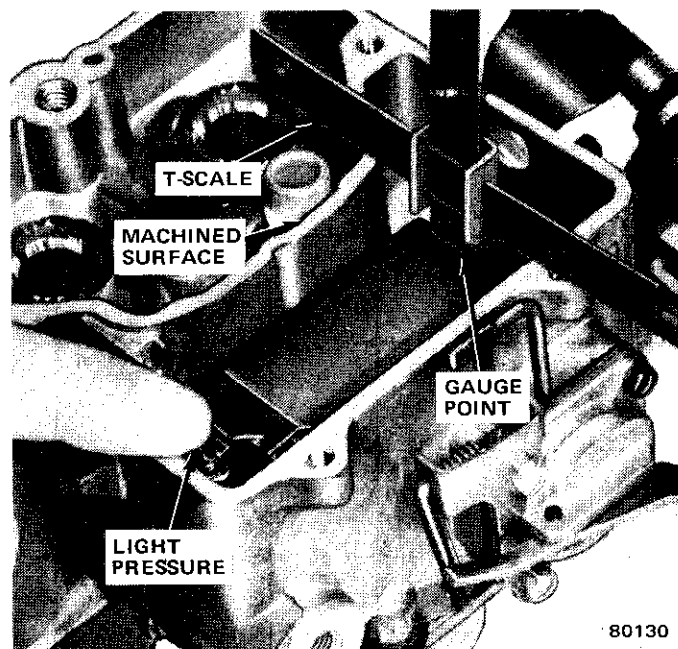

Fig. 1J-55 Dry Float Adjustment
(1) Remove air horn assembly and gasket. Raise float by pressing down on float tab until fuel inlet needle is lightly seated.
(2) Use T-scale to measure distance from fuel bowl machined surface to flat surface of either corner of float at free end. Refer to Specifications for correct setting.
(3) Bend float tab to adjust. Hold fuel inlet needle off its seat while adjusting to prevent damage to Viton-tipped needle (fig. 1J-55).